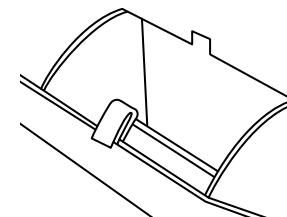

Figure 2
- Open the water filling door located at the bottom of the appliance (see Figure 2).